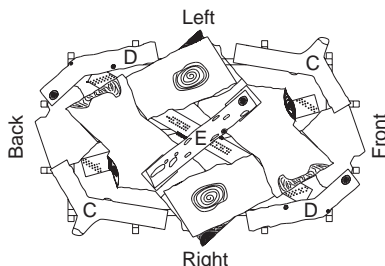

Figure 51 - Installing Twigs "C, D, E" (Top View)
8. Take twigs "C" (shaped like a "Y") and place them as shown in Figure 51.
9. Take twigs "D" (bent twig) and place them as shown in Figure 51.
10. Place twig "E" across top of logs "B" as shown in Figure 51.
11. When finished installing logs, close glass door. Make certain safety door switch is fully pressed by door frame before securing four (4) spring loaded latches.